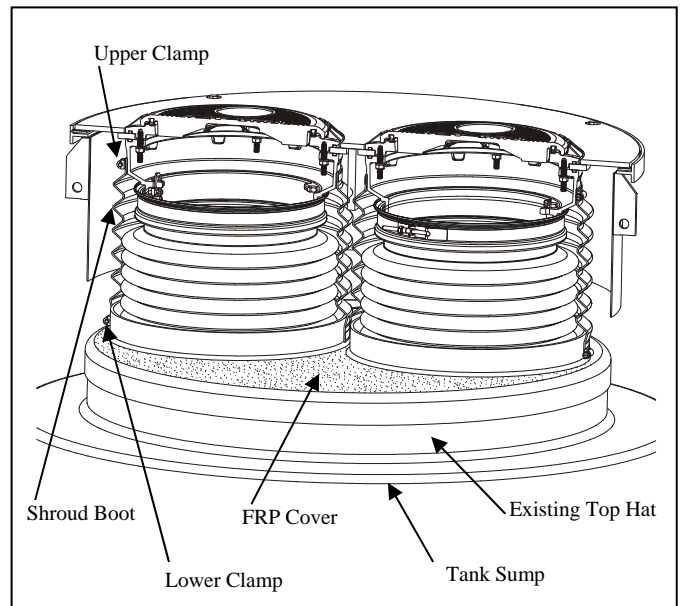

Figure 2
the Fiberglass cover and Shroud Boots over the Multi-Port Spill containers until the Fiberglass cover is resting on the Top Hat Tank Sump (See Figure 2)
12. Band Clamp top of the Shroud Boot to the Spill Container bucket Ring on the machined surface (See Figure 2).